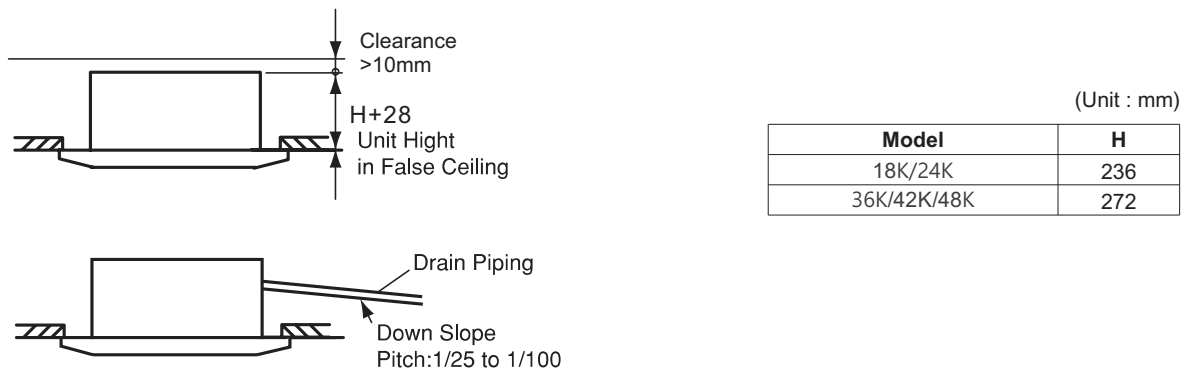

Fig. 3.2 Installation Location of Indoor Unit
- Select the installation location as shown in Fig 3.2:
- (A) Minimum Clearance
- (B) Down Slope Pitch of Drain Piping: 1/25 ~ 1/100